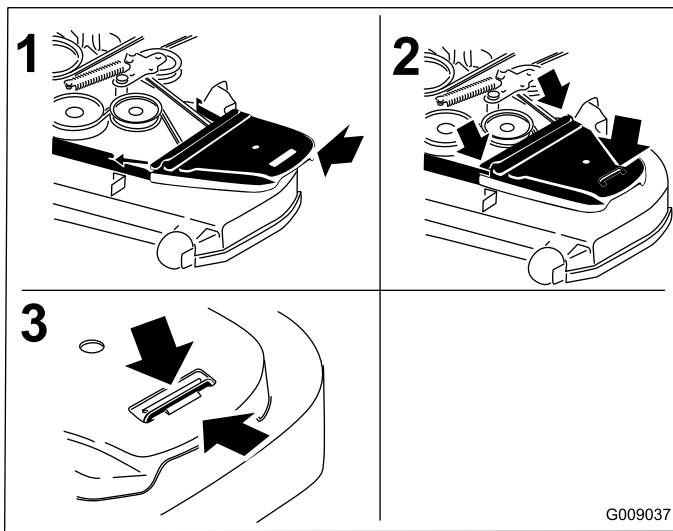

**Figure 71**
10. Install the belt guide on the idler arm shown in Figure 71.
11. Using the ratchet in the square hole, install the idler spring (Figure 71).
5. Use a ratchet in the square hole in the idler arm to remove tension on the idler spring (Figure 71).
7. Remove the belt guide on the spring loaded idler arm shown in Figure 71.
9. Install the new belt around the mower pulleys and the clutch pulley under the engine (Figure 71).